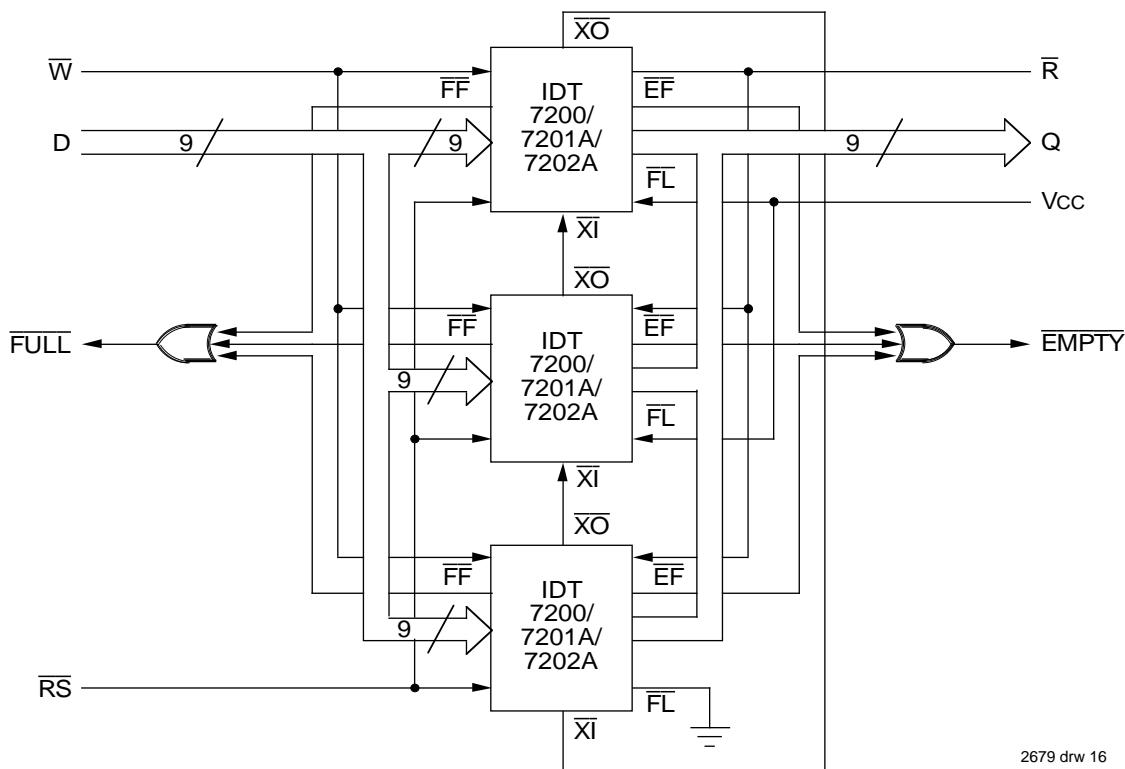

Figure 14. Block Diagram of 768 x 9/1536 x 9/3072 x 9 FIFO Memory (Depth Expansion)
The IDT7200/7201A/7202A can easily be adapted to applications when the requirements are for greater than 256/512/1024 words. Figure 14 demonstrates Depth Expansion using three IDT7200/7201A/7202As. Any depth can be attained by adding additional IDT7200/7201A/7202As. The IDT7200/7201A/7202A operates in the Depth Expansion mode when the following conditions are met:
3. The Expansion Out ( $XO$ ) pin of each device must be tied to the Expansion In ( $\overline{XI}$ ) pin of the next device. See Figure 14.
4. External logic is needed to generate a composite Full Flag ( $\overline{FF}$ ) and Empty Flag ( $\overline{EF}$ ). This requires the ORing of all  $\overline{EF}$ s and ORing of all  $\overline{FF}$ s (i.e. all must be set to generate the correct composite  $\overline{FF}$  or  $\overline{EF}$ ). See Figure 14.
1.  $\bar{XI}$  is connected to  $\bar{XO}$  of previous device. See Figure 14.  $\bar{RS}$  = Reset Input,  $\bar{FL}/\bar{RT}$  = First Load/Retransmit,  $\bar{EF}$  = Empty Flag Output,  $\bar{FF}$  = Flag Full Output,  $\bar{XI}$  = Expansion Input,  $\bar{HF}$  = Half-Full Flag Output
1. For depth expansion block see section on Depth Expansion and Figure 14.